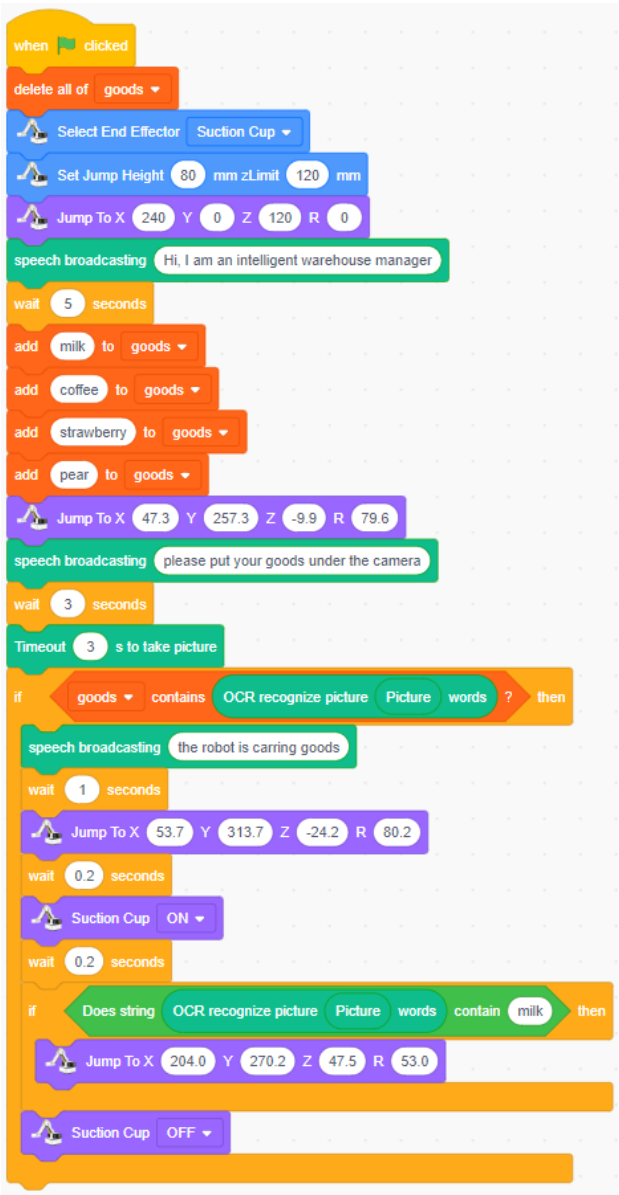

Figure 1.13 The recognized goods is milk
Step 8: Determine whether the text in the OCR recognition picture contains "milk". If so, move the robot above the position of the milk, place the grabbed milk box in the position of the milk, and then voice prompt "Please place the product in the identification area"; otherwise, determine whether it is other goods, as shown in Figure 1.13.